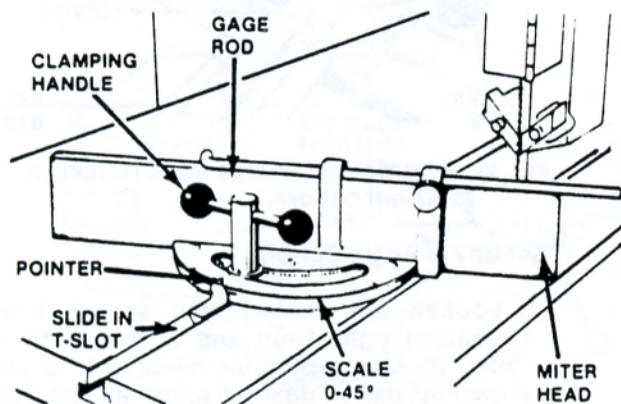

FIG. 35. PROTRACTOR WORKSTOP & ALIGNING GAGE SET-UP.
- (1) Lock slide bar in table T-slot in a position so miter head will clear saw band.
- (2) Adjust miter head for angle cutting between 0-45° by releasing clamp stud.
- (3) Adjust for desired cut length by loosening thumb screw holding gage rod.
- (4) Slide rod to position and tighten thumb screw. See Fig. 35.